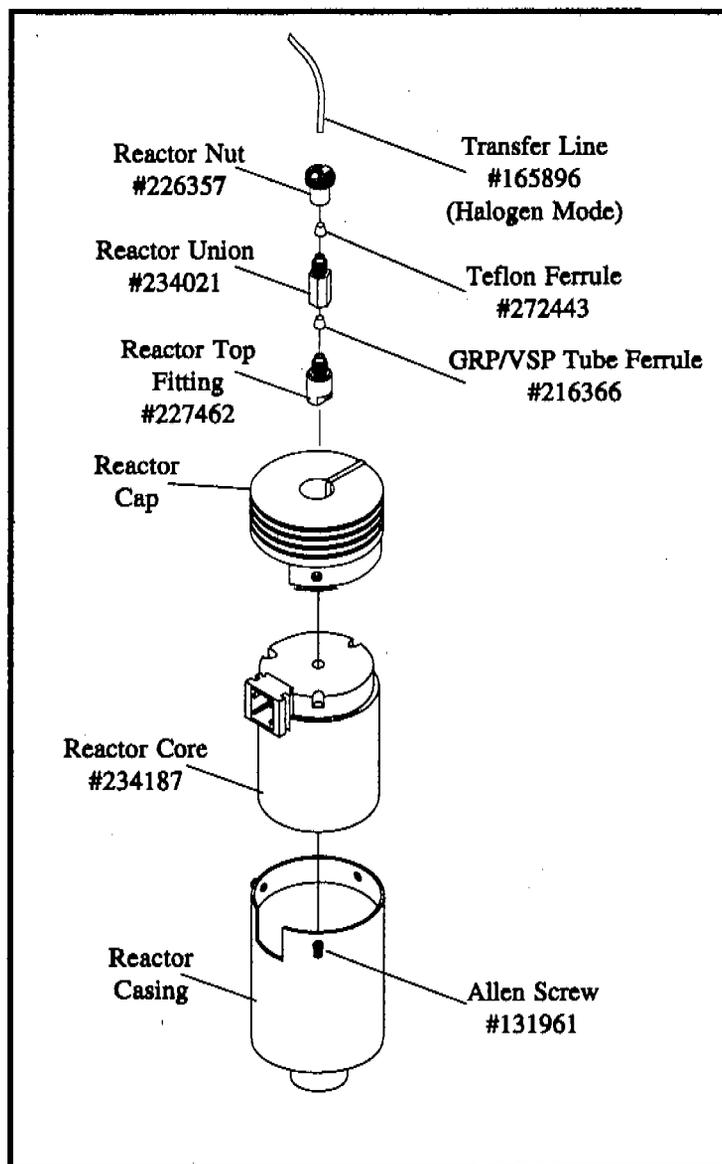

Figure 5.1. Reactor Assembly
- For the Halogen Mode, unscrew the knurled reactor nut (Part #226357) at the top of the reactor (see Figure 5.1).
- Disconnect the transfer line by removing the knurled reactor nut (Part #272443) (Halogen Mode) or the scrubber tube nut (Part #196220) (Nitrogen/Sulfur Modes) at the scrubber union (see Figures 5.1 and 5.2).